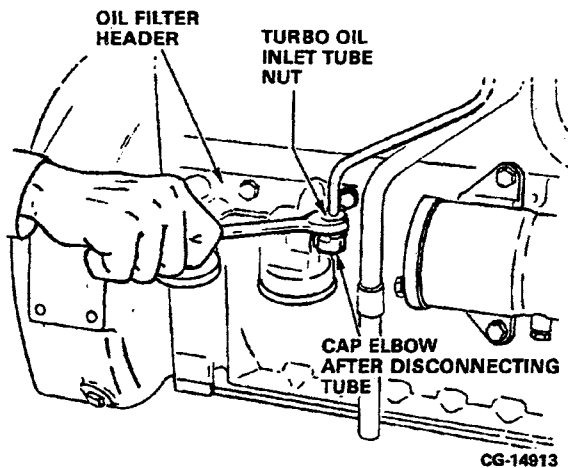

Figure 9.18. Disconnect Turbo Oil Inlet Tube
2. Disconnect the turbocharger oil inlet tube nut at the filter header elbow. Cap the elbow after disconnecting the oil inlet tube. Refer to Figure 9.18.